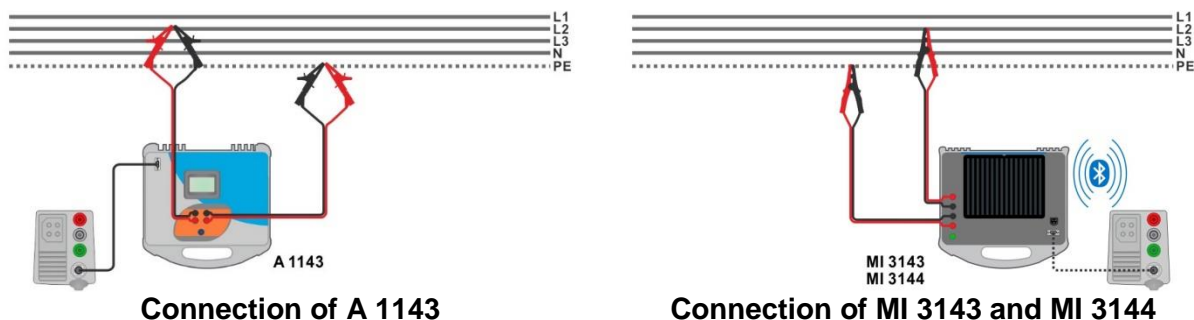

Figure 7.52: High precision loop impedance measurement
- ▶ Connect test leads to the object under test, see **Figure 7.52** and **Figure 7.53**.